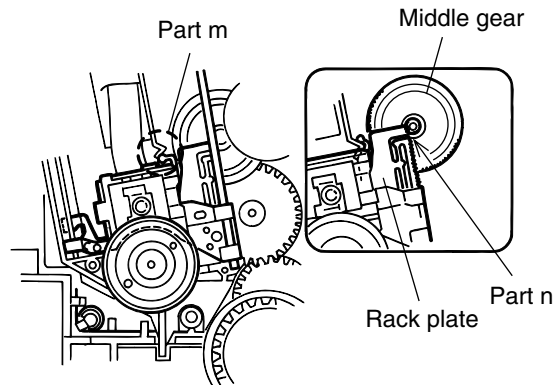

Fig. 16
3. Engage the hook k of the pickup assembly with the CH. base assembly first, and set the part j of the rack plate in the opening I next. Then, reinstall the pickup assembly while shifting it to the T-T side (inward) so that the part m of the rack plate is positioned as shown in Fig. 16.